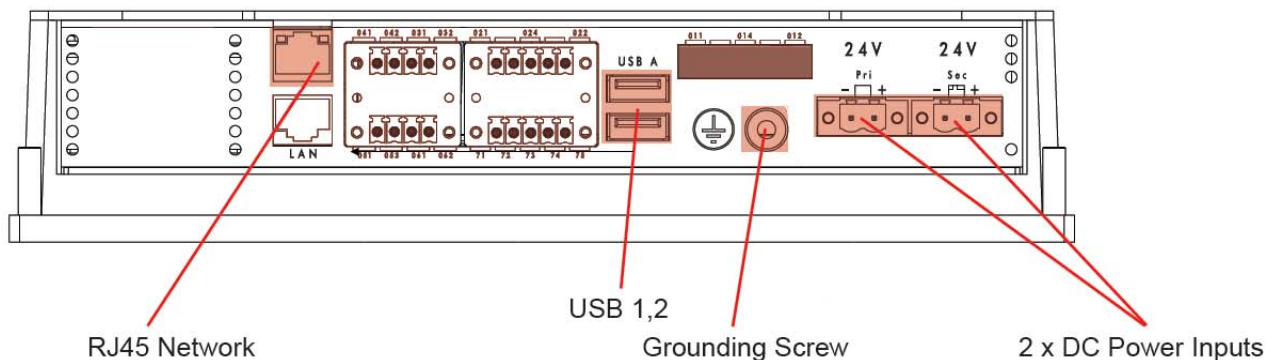

Figure 4 – TSM800 Interface Connector Panel
The external I/O interface connector panel is shown in Figure 4.
Step 1: Locate the USB connectors. The locations of the USB connectors are shown in Figure 4.